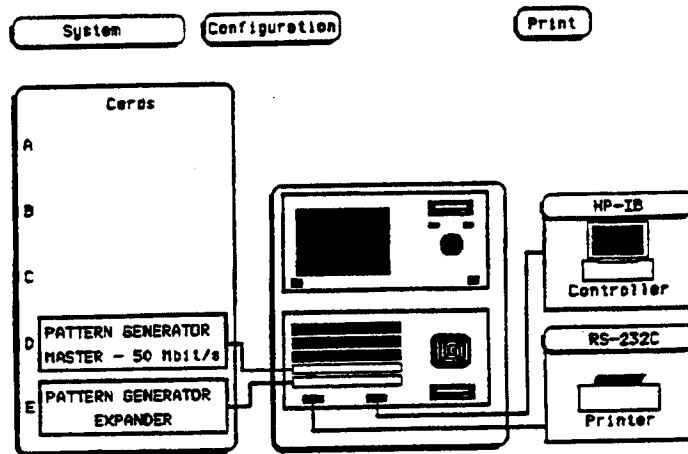

Figure 6-4. Startup Screen
- b. From the startup screen shown in figure 6-4, touch Configuration field, then touch Test.